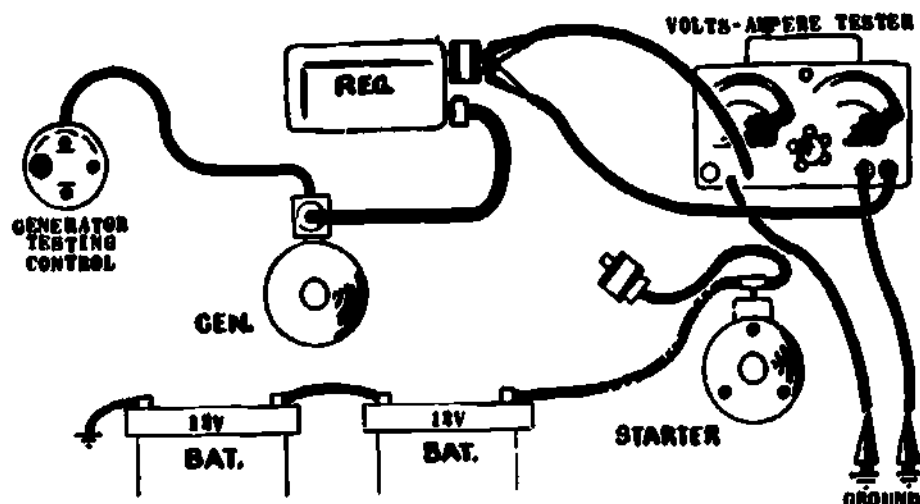

Fig 1-22. Current regulator test.
8. **Current regulator test (fig 1-22).** Current flow creates heat; for example, current flowing through the conductor in a light bulb causes it to become white-hot and produce light. It is possible for the generator to build up sufficient current to melt the metal in it, therefore the current must be controlled to prevent damage. The current regulator prevents the generator from exceeding its safe output when the battery is in low state of charge or when the electrical load exceeds the maximum safe output.